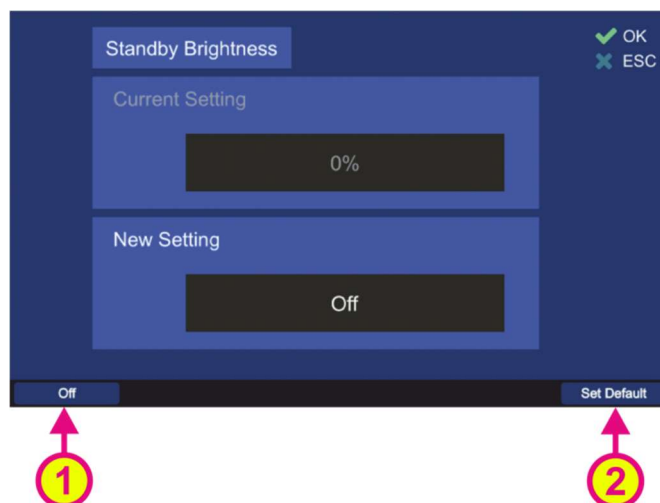

Figure 99. Adjusting the standby brightness
Following dialog opens (s. Figure 99).
- Type the new value for the standby brightness value in the “New Setting” input field, using the numeric buttons of the DCU keypad or use the hotkey “Off” (s. Figure 99, position 1) in order to set the standby brightness to a “black screen”-value.
- Use the “Set Default” hotkey (s. Figure 99, position 2) to reset the value to the default setting (Off).